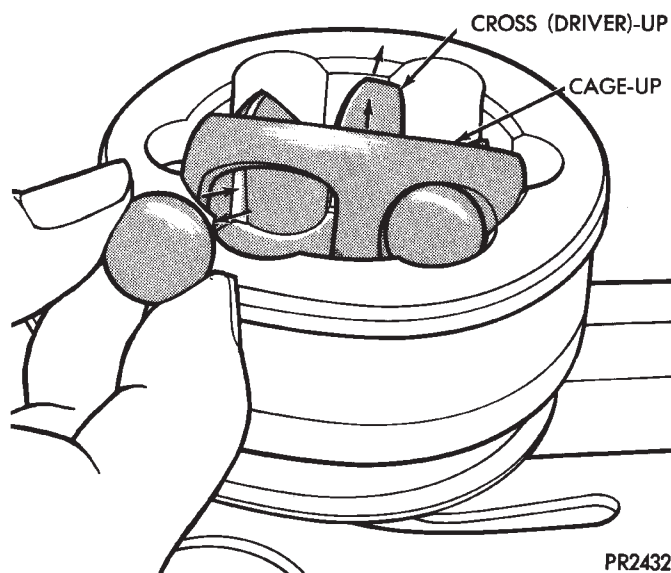

Fig. 7 Inserting Balls into Raceway
(7) Apply lubricant to ball races from packet provided in boot kit and distribute equally between all sides of ball grooves. One packet is sufficient to lubricate the joint.
(8) Insert balls into raceway by tilting cage and inner race assembly (Fig. 7).